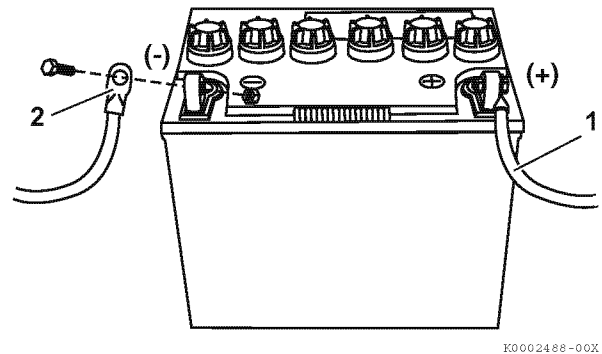

Figure 21
3. When connecting cables to battery connect the positive (+) cable (1, **Figure 21**) first.
4. Connect the negative (-) cable (2, **Figure 21**) to the battery last.